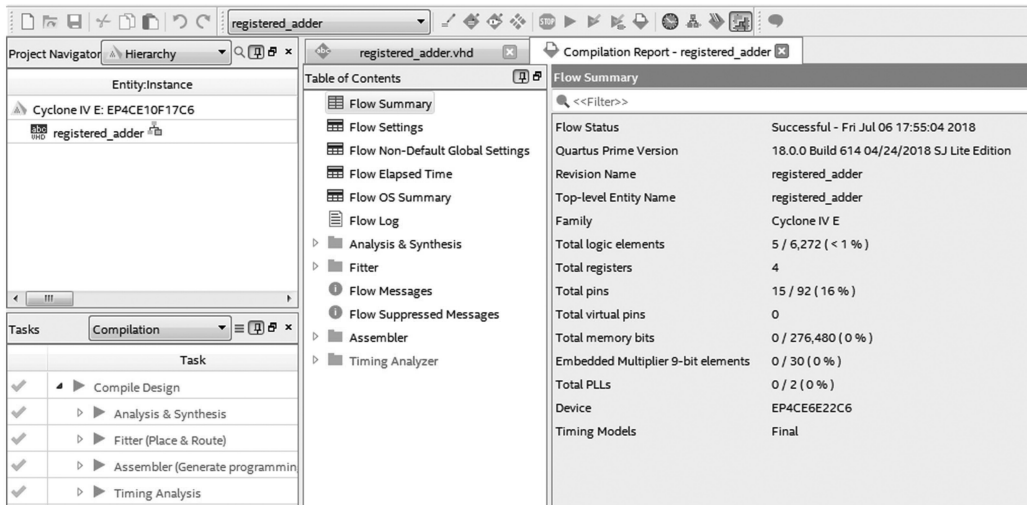

Figure B.4
g) Compile the code by clicking  or by selecting **Processing > Start Compilation**. When the compilation ends, the Compilation Report of figure B.4 is exhibited. This report contains several pieces of valuable information, some of which are described in the next section.
- Device type and number of pins:* Check in figure B.4 if the device is the intended one (in case one was selected). Check also whether the total number of pins is as expected ( $3 + 3 + 1 = 7$  inputs and  $4 + 4 = 8$  outputs, totaling 15 pins).
- Resources usage:* It can be given in number of logic elements (LEs), number of LUTs, number of adaptive logic modules (ALMs), and so on and depends on the FPGA. Note that it is given in “number of LEs” in figure B.4, with 5 used out of  $> 6k$ .
- Number of registers:* This is the number of D-type flip-flops (DFFs) inferred by the compiler. Since *sum\_reg* is a 4-bit signal (figure B.1a), 4 flip-flops are needed, which is indeed what figure B.4 says.